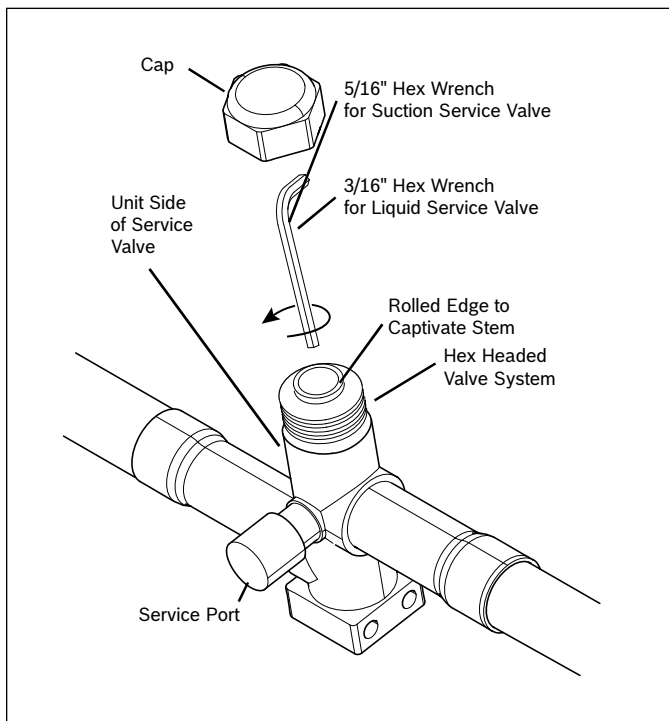

Figure 29
1. Remove Service Valve Cap (Figure 29).
2. Fully insert hex wrench into the stem and back out counterclockwise until valve stem just touches the rolled edge (approximately five (5) turns.)